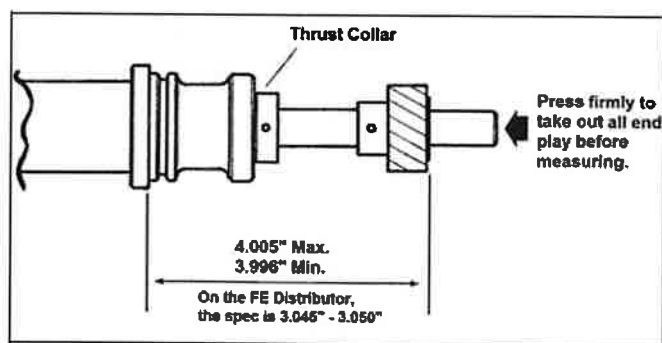

Figure 14 Gear Installation Specifications
1. With the endplay of the distributor shaft removed, measure the distance from the bottom of the gear to the bottom of the mounting flange (**Figure 14**). It should be within the specifications shown.
5. Press the new gear into position on the shaft. Measure the distance as shown in (**Figure 14**) before drilling the new roll pin hole.